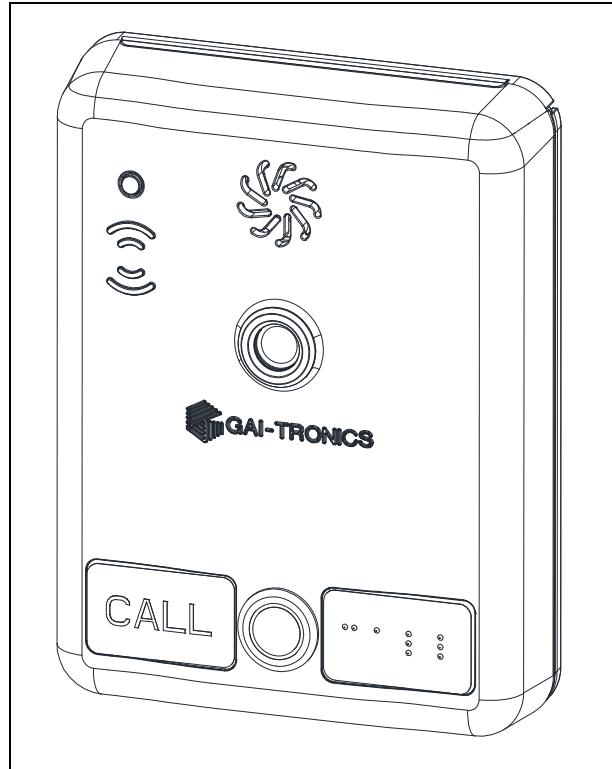

Figure 1. HUBBCOM Remote Station
1. Drill two holes through the mounting plate at the drill points (see Figure 1) and drill corresponding holes in the mounting surface.